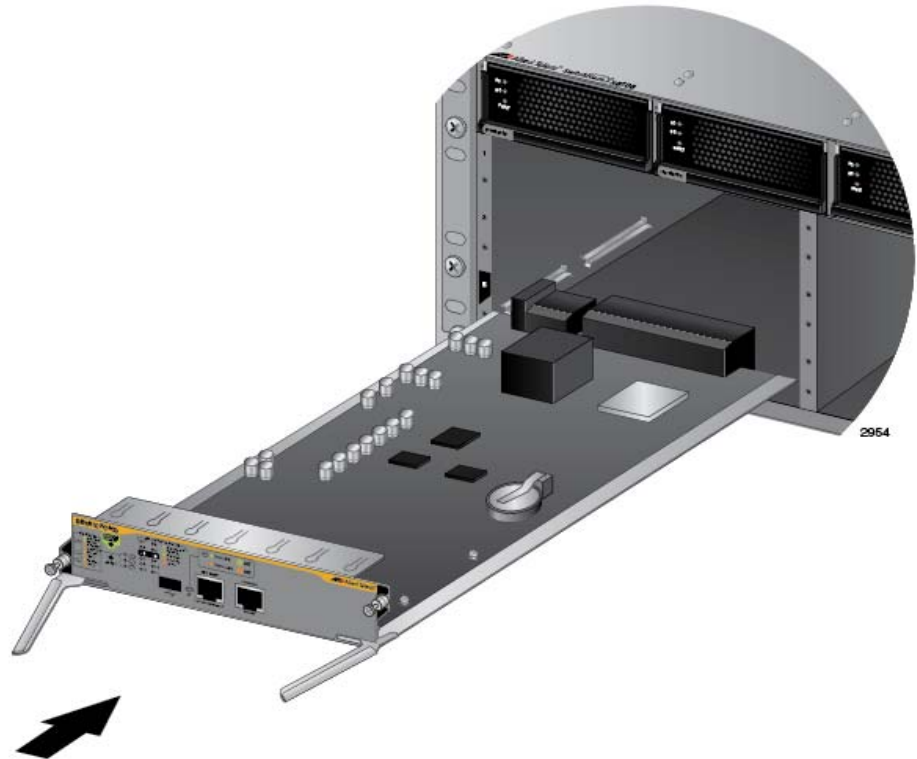

Figure 66. Aligning the AT-SBx81CFC400 Card in the Chassis Slot
6. Align the edges of the AT-SBx81CFC400 Controller Fabric Card with the internal chassis card guides in slot 5 or 6 of the AT-SBx8106 Chassis. Figure 66 on page 125 shows the AT-SBx81CFC400 Card aligned in slot 5.